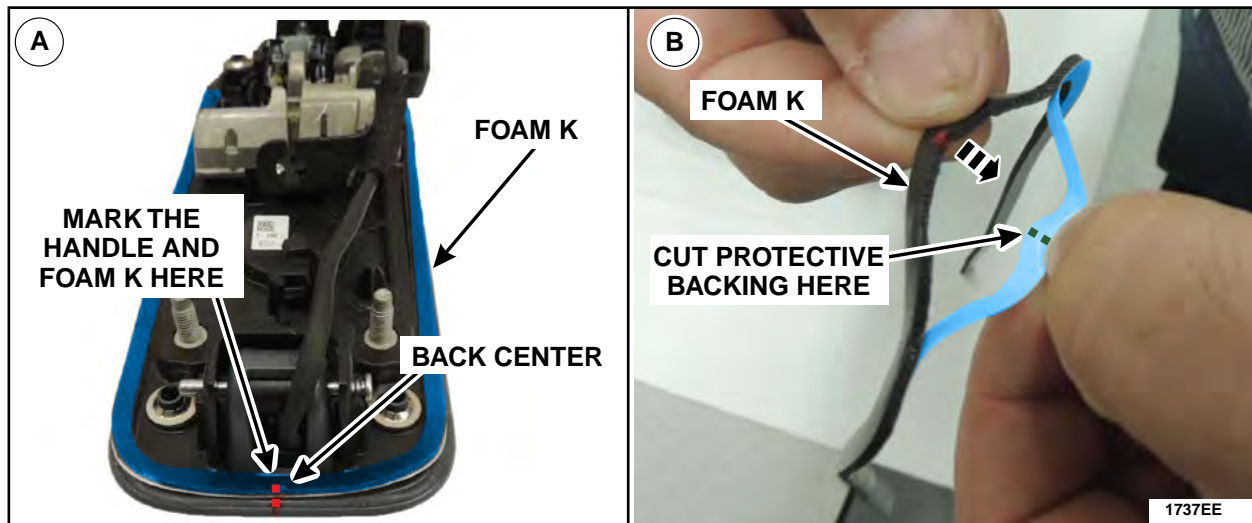

FIGURE 91
- A. Lay out Foam K on the exterior door handle and mark center as shown in Figure 91.
- B. Remove Foam K from the door handle and remove the back center portion of the adhesive backing then cut the protective backing in half. See Figure 91.